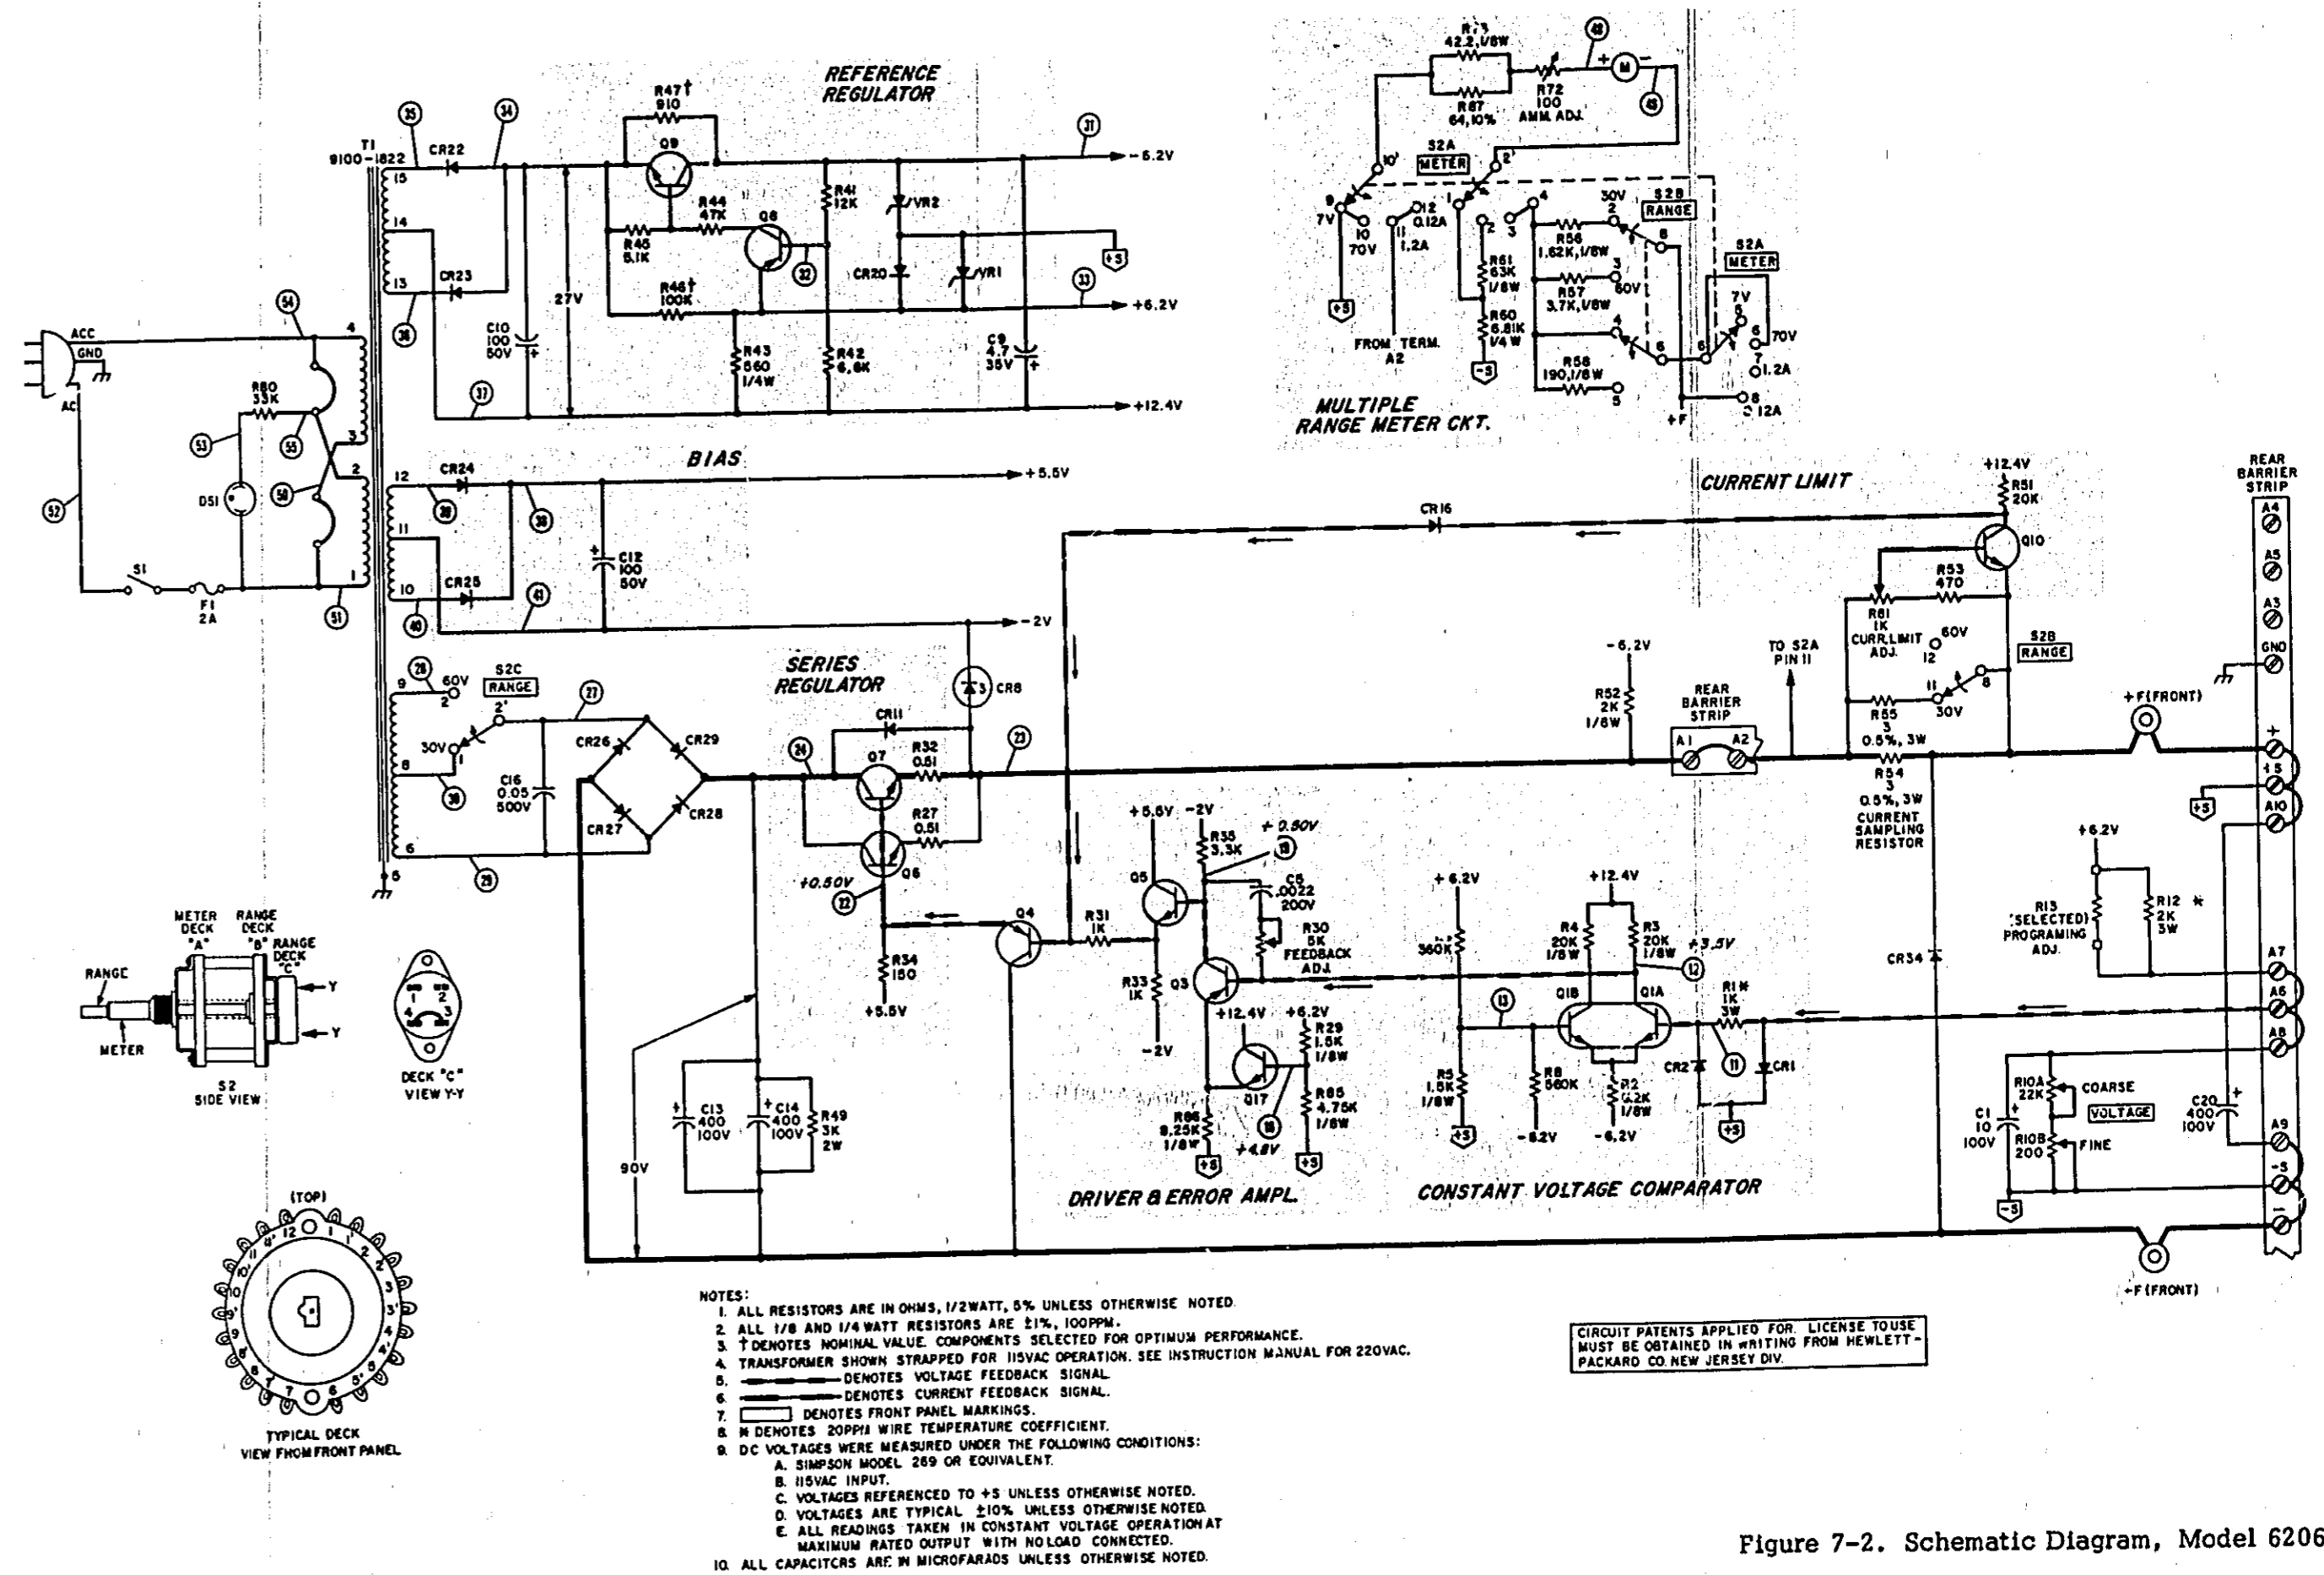

Figure 7-2. Schematic Diagram, Model 6206B
b. Schematic Diagram, Figure 7-2, which illustrates the circuitry for the entire power supply. Voltages are given adjacent to test points, identified by encircled numbers on the schematic and printed wiring board.